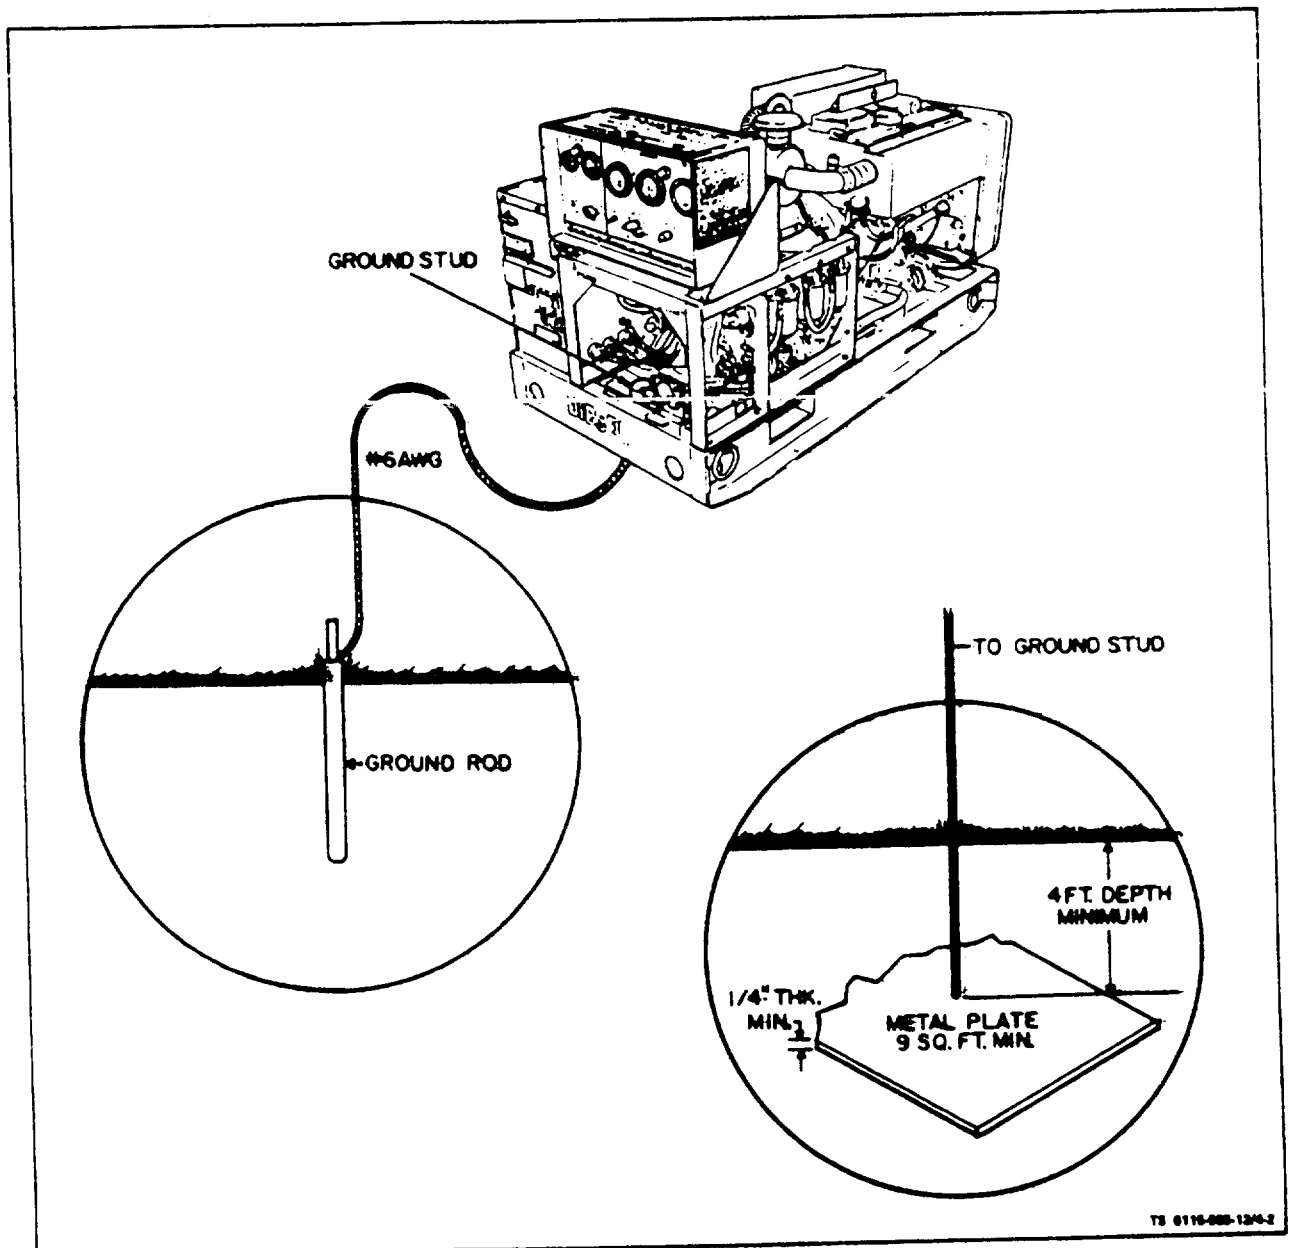

Figure 4-2. Grounding Generator Set
e. Grounding. The Generator Set must be grounded prior to operation. The ground can be, in order of preference: (1) an underground metallic water piping system, (2) a driven metal rod, or (3) a buried metal plate (figure 4-2). If the effectively grounded portion of the buried metallic water pipe is less than 10 feet due to insulated sections or joints, this preferred grounding method must be supplemented by an additional driven metal rod ground or a buried metal plate ground. A driven metal ground rod must have a minimum diameter of 5/8 inch if solid or 3/4 if pipe, and driven to a minimum depth of 8 feet. A buried metal ground plate must have a minimum area of 9 square feet, minimum thickness of 1/4 inch, and be buried at a minimum depth of 4 feet. The ground lead must be at least No. 6 AWG (American Wire Gauge) copper wire.